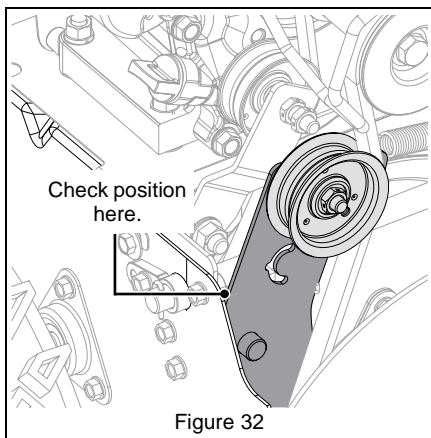

Figure 32
5. With the attachment clutch disengaged, make sure auger idler arm lightly touches the frame. See Figure 32.